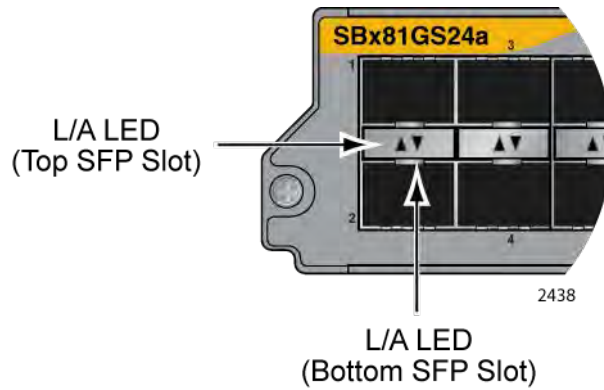

Figure 22. Port LEDs on the AT-SBx81GS24a SFP Line Card
**LEDs** The SFP slots on the AT-SBx81GS24a SFP Line Card have one LED each, as shown in Figure 22 on page 51 and described in Table 10 on page 51.